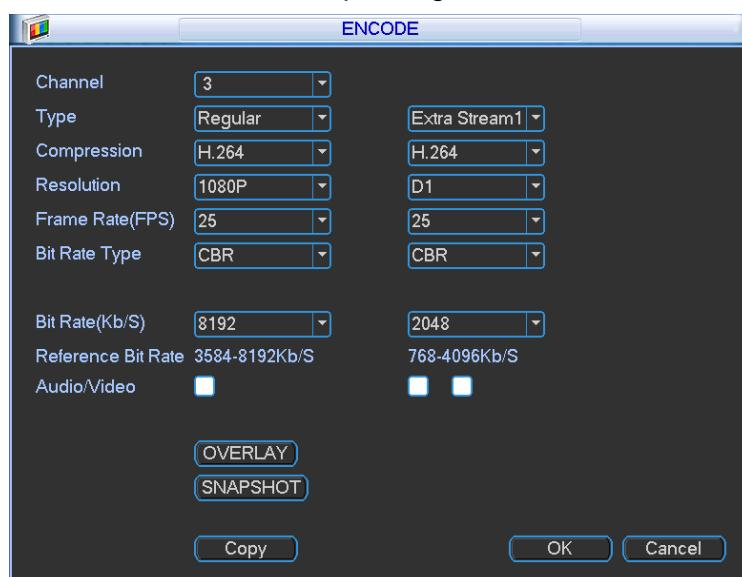
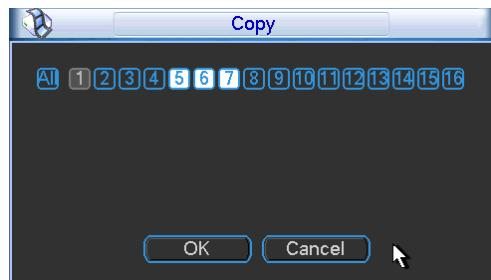
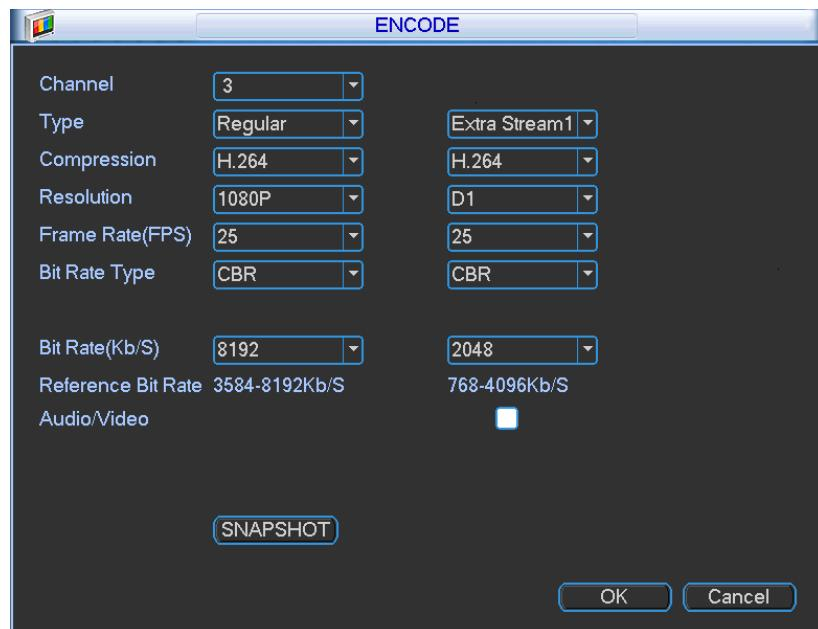

Figure 5-26
Figure 5-28
Figure 5-29
Encode setting includes the following items. See Figure 5-26.
- ❖ Copy: After you complete the setup, you can click Copy button to copy current setup to other channel(s). You can see an interface is shown as in Figure 5-28. You can see current channel number is grey. Please check the number to select the channel or you can check the box ALL. Please click the OK button in Figure 5-28 and Figure 5-26 respectively to complete the setup. Please note, once you check the All box, you set same encode setup for all channels. Audio/video enable box, overlay button and the copy button is shield. See Figure 5-29.